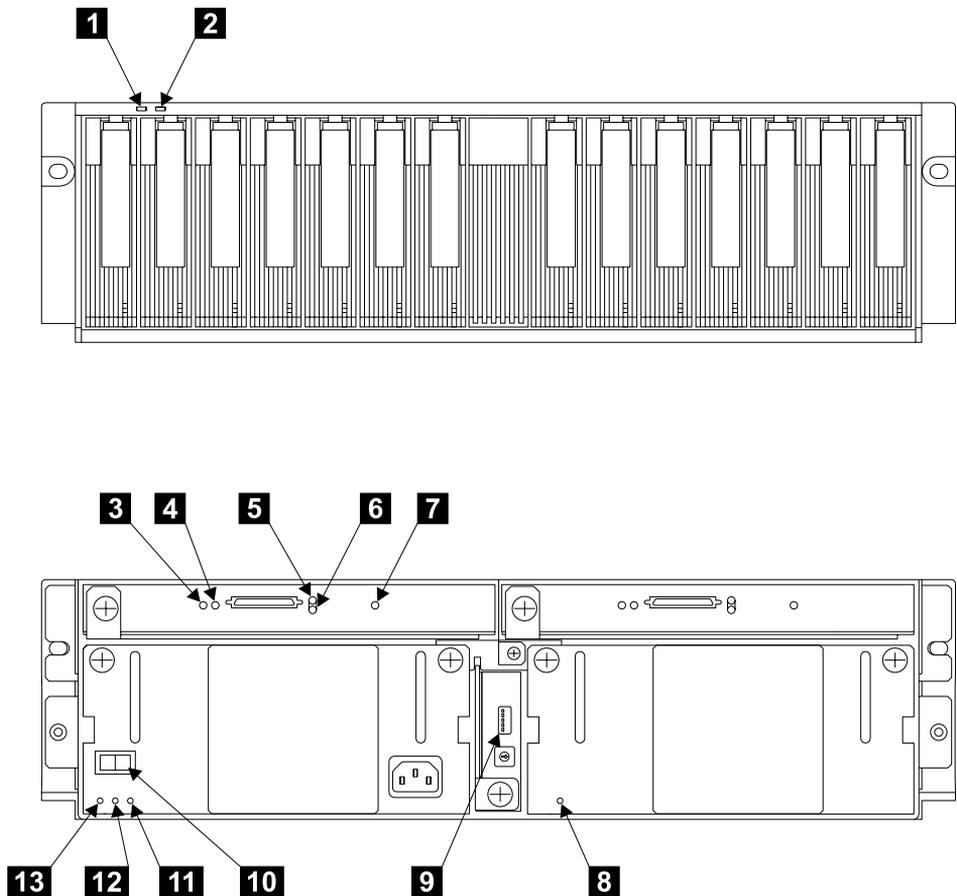
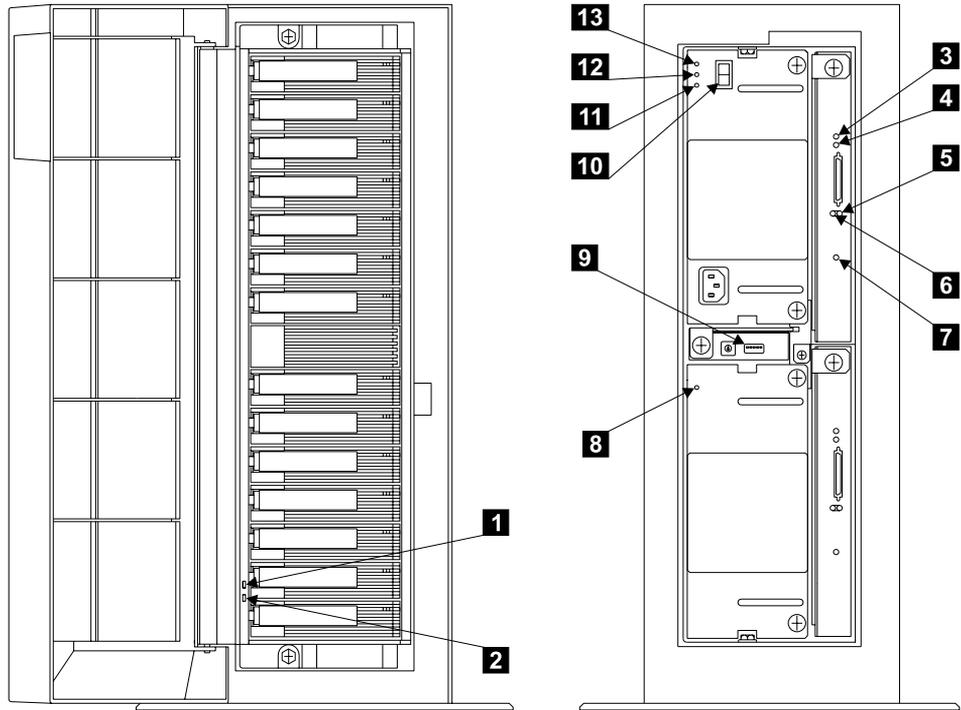
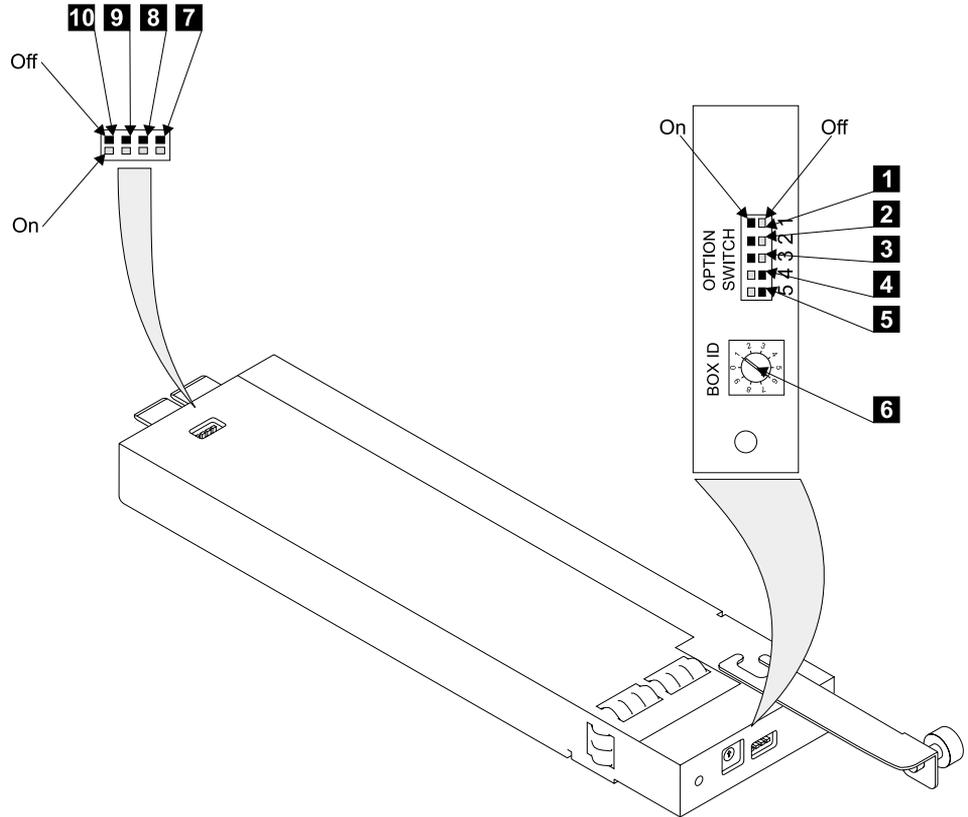

Figure 2. Lights and Switches of the 2104 Model DU3
Figure 3. Lights and Switches of the 2104 Model TU3
Figure 4. Switch Card Assembly Switches
Figure 2 shows the lights and switches of the 2104 Model DU3; Figure 3 shows the lights and switches of the 2104 Model TU3.
*To identify the lights that are described here, see Figures 2 and 3.*
*To identify the lights and switch that are described here, see Figures 2 and 3.*
*To identify the light that is described here, see Figures 2 and 3.*
The switch card assembly is item **9** in Figures 2 and 3. To identify the switch card assembly switches, refer to Figure 4.